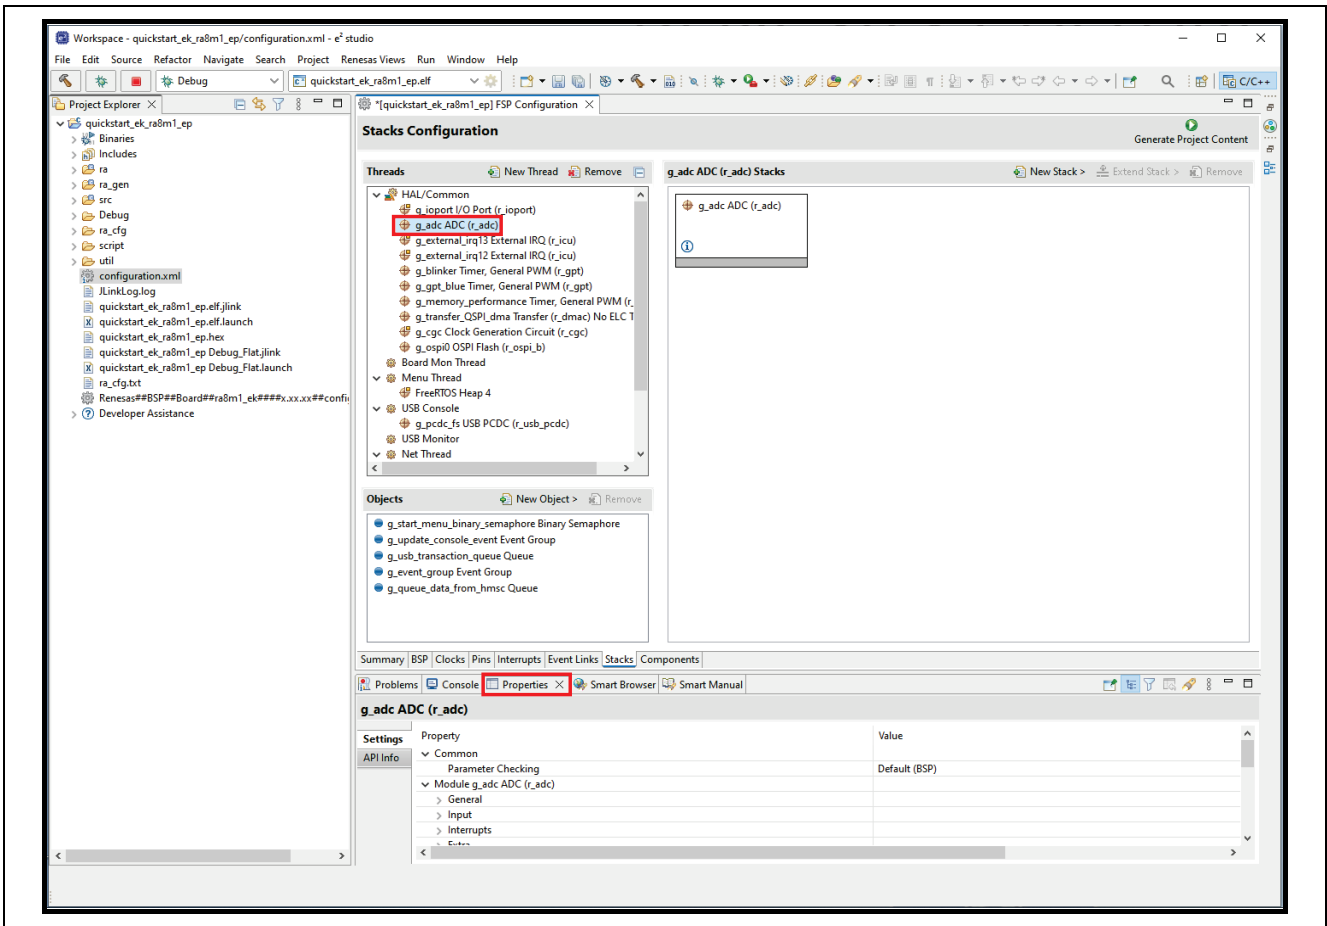

Figure 31. Modifying the Configuration Settings
2. For example, in the **Stacks** tab of the configurator, the user can click to select modules to modify the configuration settings, as required, in the **Properties** tab. Figure 31 illustrates modifying the **ADC** driver configuration.